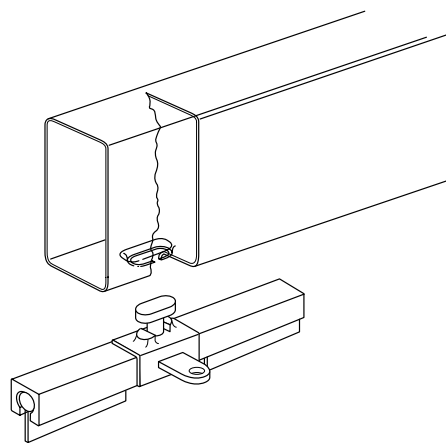

Fig. 3.33 — Adapter Clamp for Conventional Anchoring System
**Notice:** Use Kent Moore Tools Frame Adapter Clamp (P/N J42058) to secure the vehicle if pulling and straightening is required (Fig. 3.33).